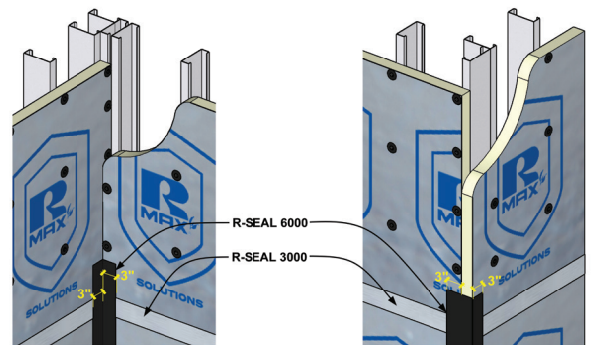

Figure 8
I. Corners: Use R-SEAL 6000 to bridge adjacent insulation boards at corners. Apply at the bottom of the wall and work up extending flashing a minimum of 3" onto each facer (beyond the foam core). **Reference Figure 8.**